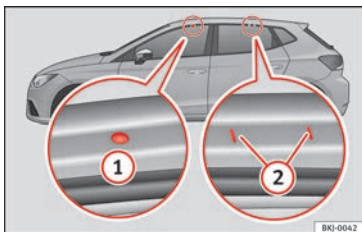

Fig. 165 Attachment points for the roof railings for the roof carrier system.
The front and rear attachment points ① and ② are only visible when the doors are open »» Fig. 165.